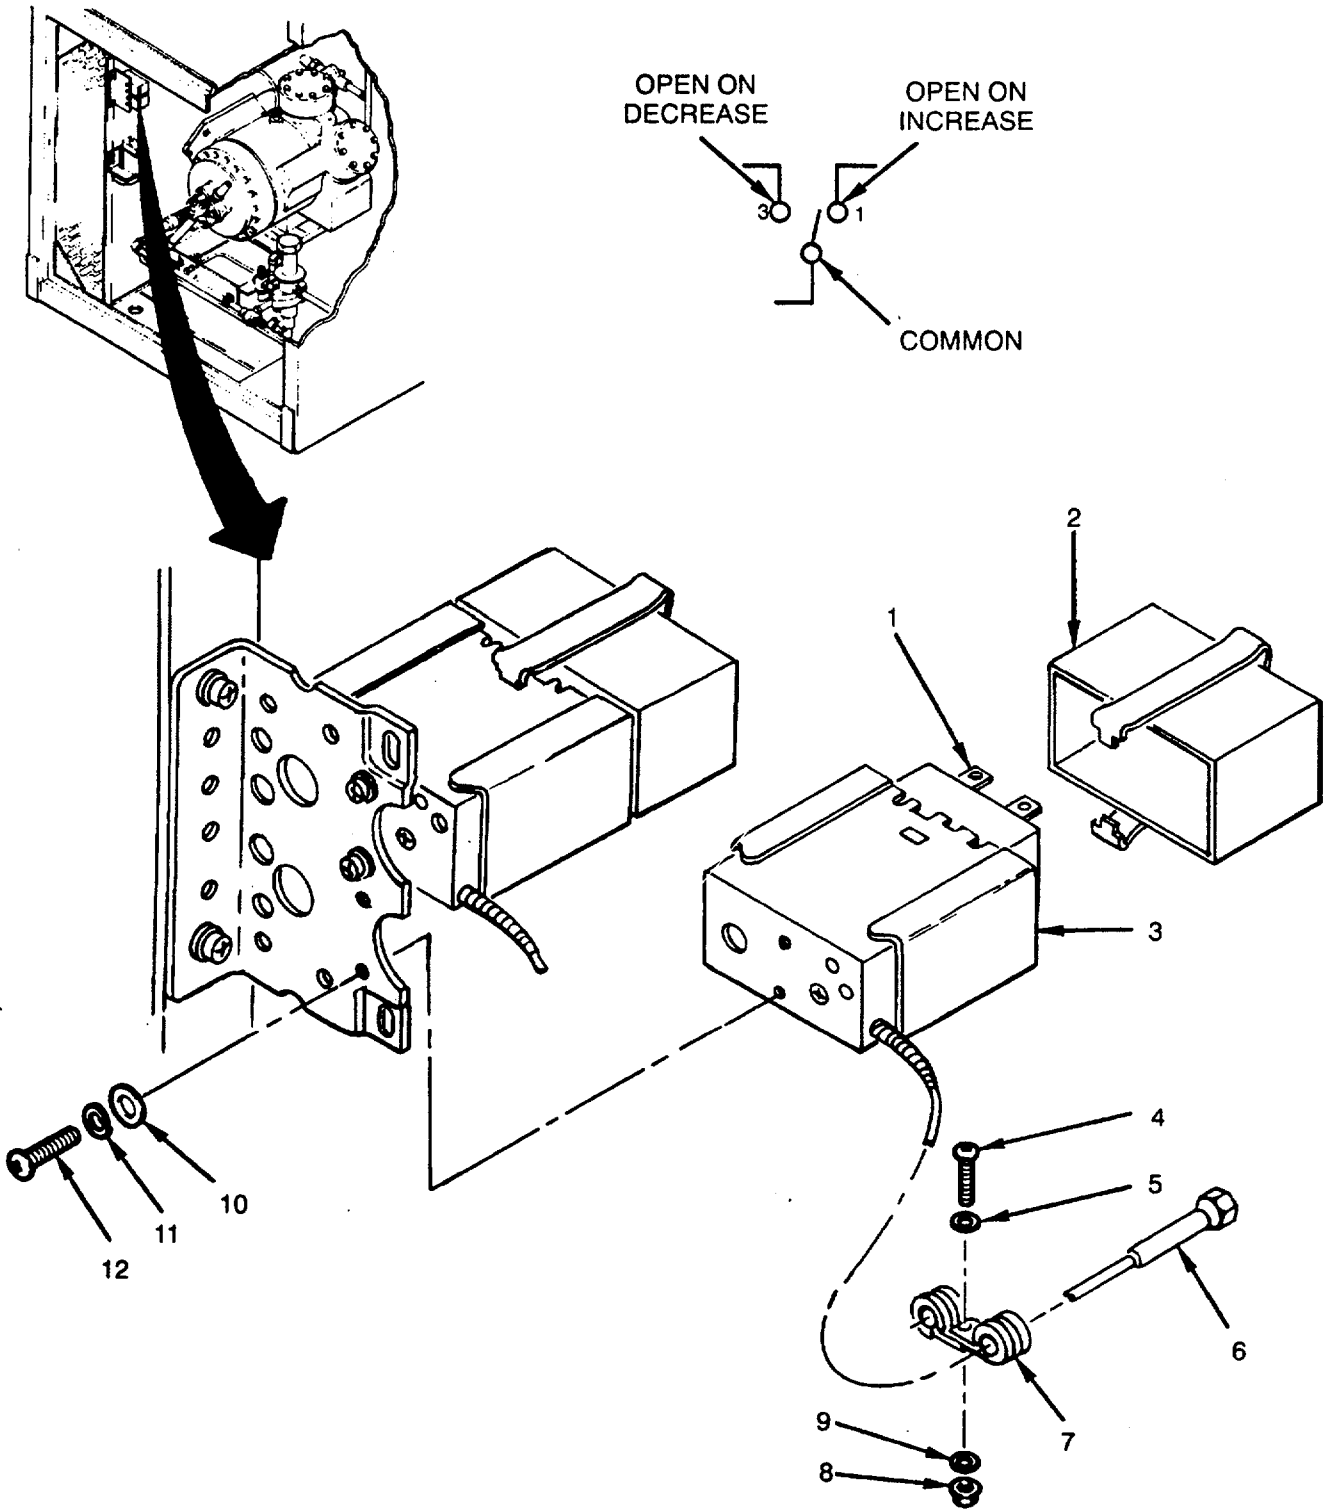

Figure 5-13. Low Refrigerant Pressure Switch (S5)
1. Check that switch and cover are not dented, broken or cracked. Replace switch and cover, if defective (see Figure 5-13).